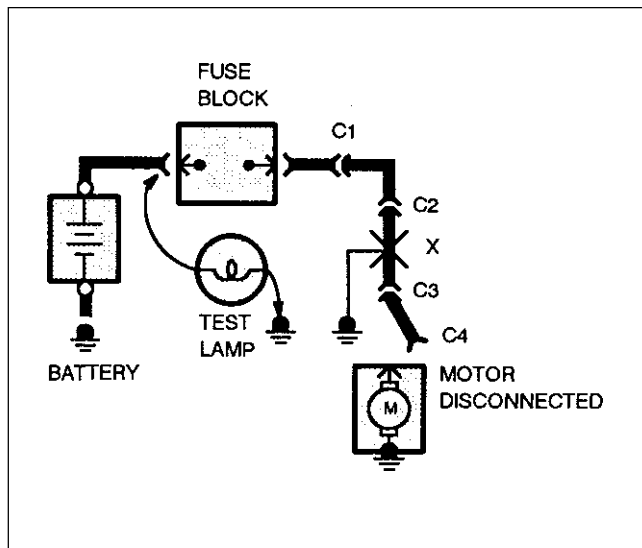

Figure 5 – Short Check
A fuse that repeatedly blows is usually caused by a short to ground. It's important to be able to locate such a short quickly (Figure 5).
- Motors: disconnect motor connector (Connector C4 in Figure 5).
5. Disconnect the test lamp lead that is connected to ground, and reconnect it to the load side of the fuse at the connector of the disconnected component. (In Figure 5, connect the test lamp lead to connector C4).
example, in Figure 5 with a ground at X, the bulb goes out when C1 or C2 is disconnected, but not after disconnecting C3. This means the short is between C2 and C3.